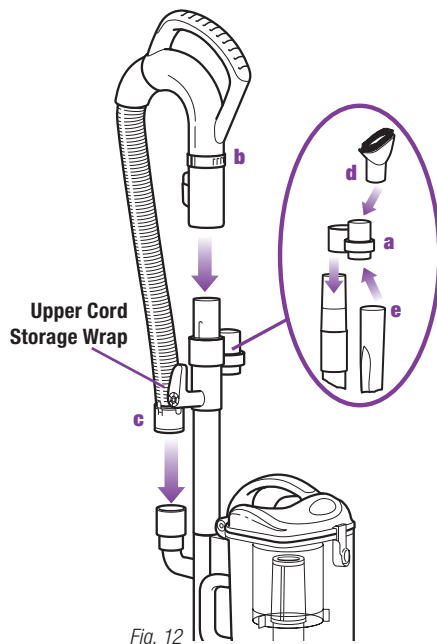

Fig. 12
- 4 Slide the accessory holder (a) positioned opposite the upper cord wrap, over the extension wand until you hear it click into place. (Fig. 12)
- 5 Push the handle (b) onto the top of the extension wand until you hear it click into place. (Fig. 12)
- 6 Insert the end of the stretch hose (c) into the connector on the back of the Lift-Away® canister. (Fig. 12)
- 7 Store the dusting brush (d) and the crevice tool (e) on the mounts of the accessory holder. (Fig. 12)